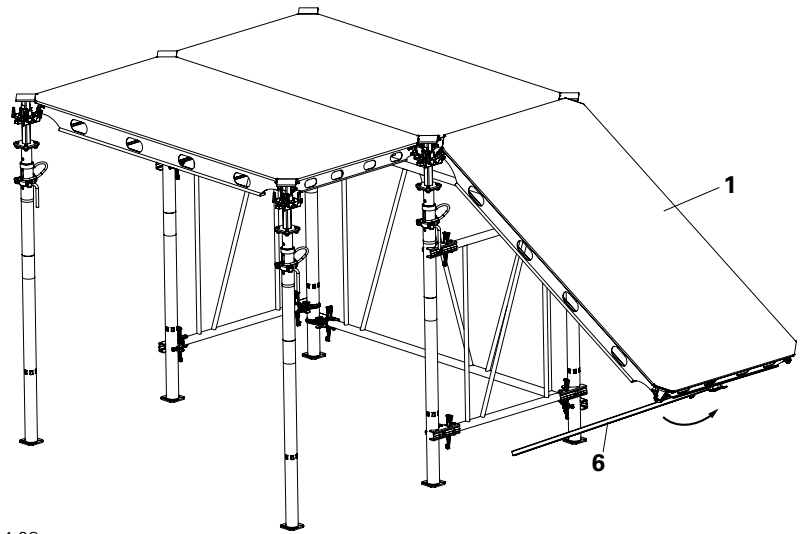

Fig. A4.08
1. Hang the next panel (1) into the props as done in shorter direction.
2. Using the shuttering aid (6), swing the panel (1) up supporting it temporarily until the next two props are installed. (Fig. A4.08)